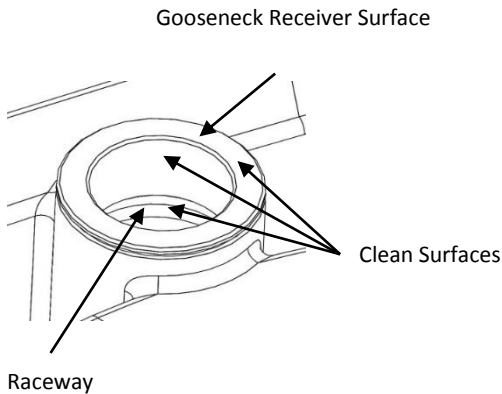

Figure 1: Receiver Hitch
- 2) Visually inspect all surfaces and raceway of the gooseneck receiver hitch (see Figure 1). Check for